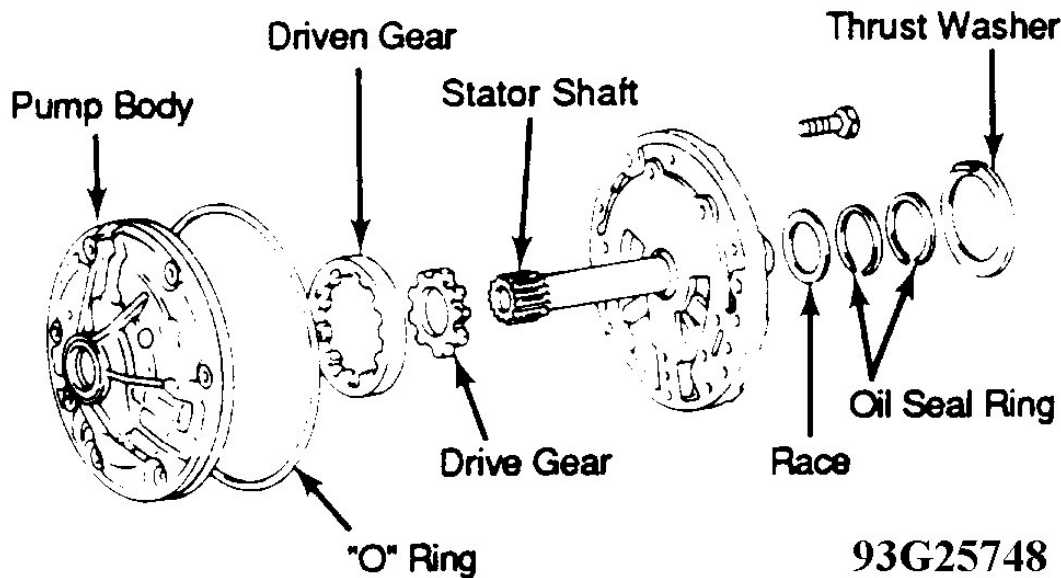

Fig. 17: Exploded View Of Oil Pump
2. Remove 11 bolts attaching oil pump body and stator shaft. Identify top and bottom and keep parts in order. Separate stator shaft and pump body. Mark gear location for reassembly reference. See **Fig. 17**. Using screwdriver, remove front seal.